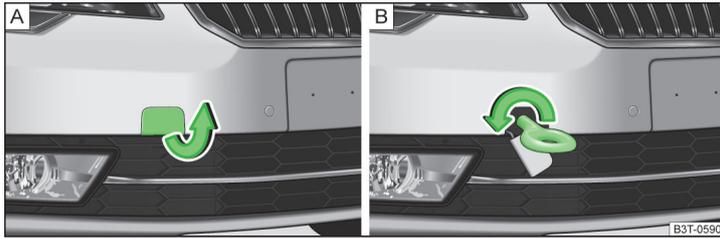

Fig. 188 Removing the cap / installing the towing eye
- Remove the cap from the front bumper » Fig. 188 - A.
- Screw-in the towing eye by turning to the left up to the stop » Fig. 188 - B and tighten as much as possible. For tightening purposes, we recommend, for example, using the wheel wrench, towing eye from another vehicle or a similar object that can be pushed through the eye.